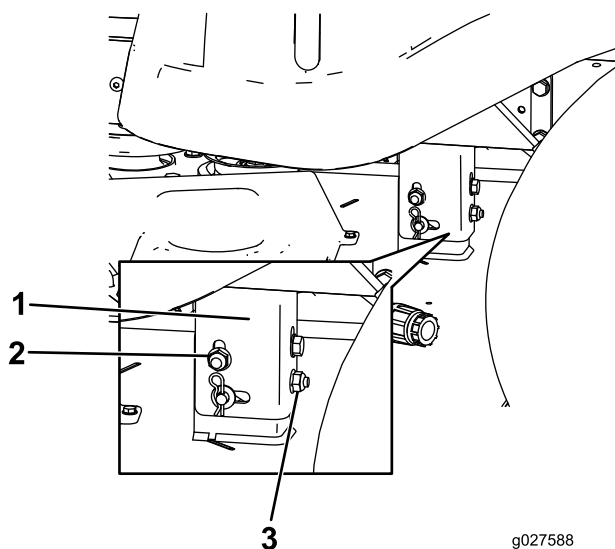

Figure 57
- Raise or lower the left side of the mower deck by rotating the rear nut. (Figure 57).